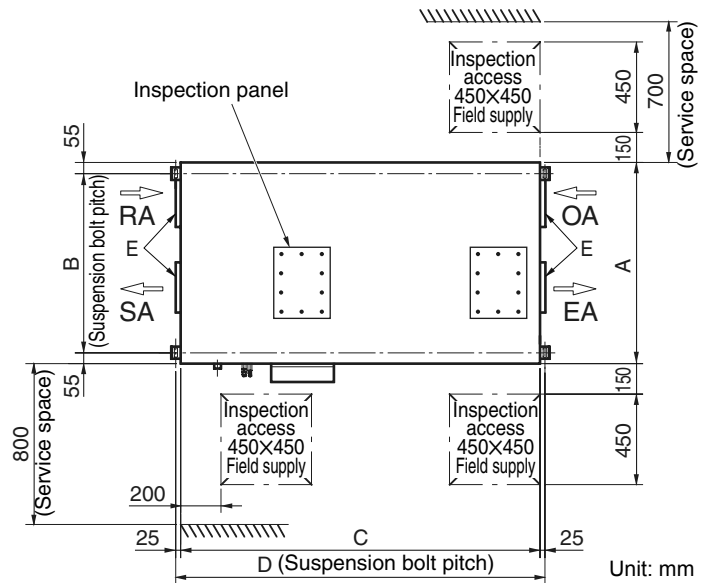

Fig. 3-188a
- The minimum space for installation and service is shown in Fig. 3-188a and Table 3-10.